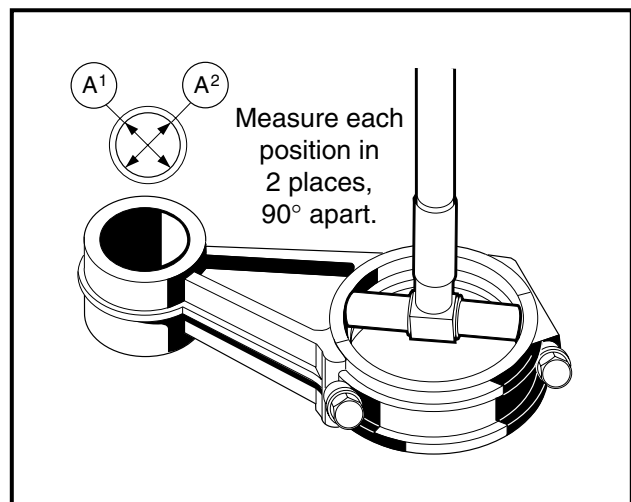

Figure 13-59 Measure Connecting Rod Large Bore I.D.
5. Using a telescoping gauge or an inside micrometer, measure the inside diameter of the large bore at several points along its length (**Figure 13-59, Page 13-29**).